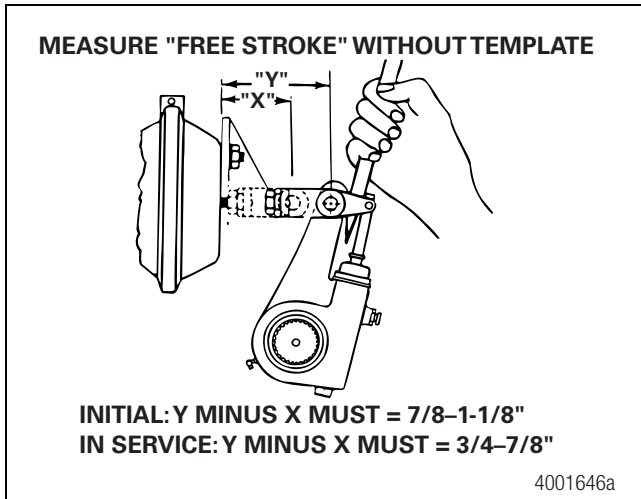

Figure 11.8
3. Free stroke is the difference between measurements taken in Step 1 and Step 2. Figure 11.8.